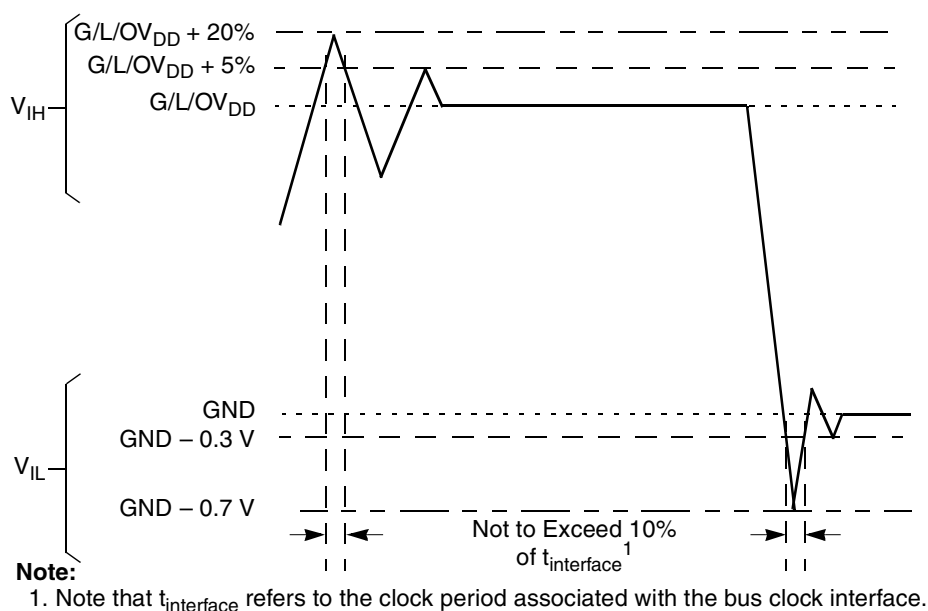

Figure 2. Overshoot/Undershoot Voltage for $GV_{DD}/OV_{DD}/LV_{DD}$
- (M,L,O) V_{IN} and MV_{REF} may overshoot/undershoot to a voltage and for a maximum duration as shown in Figure 2.
Figure 2 shows the undershoot and overshoot voltages at the interfaces of the device.